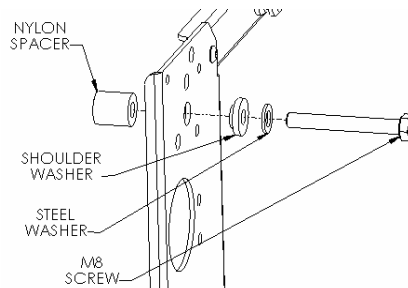
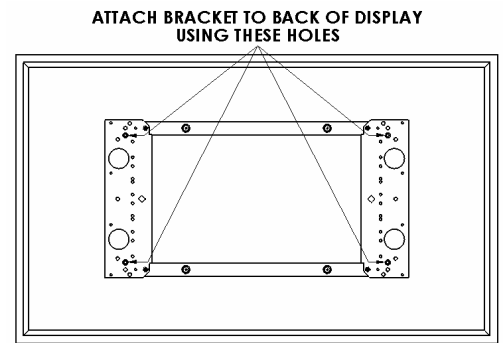

Figure 6
Figure 7
3. for 42" models, stack white and short black nylon spacers over mounting holes on back of screen and use 100mm screws. For 50 & 58" models, use the 80mm screws and long black spacer. Attach mounting brackets to display using the M8 screws, shoulder and steel washers (see Figure 6 & Figure 7).